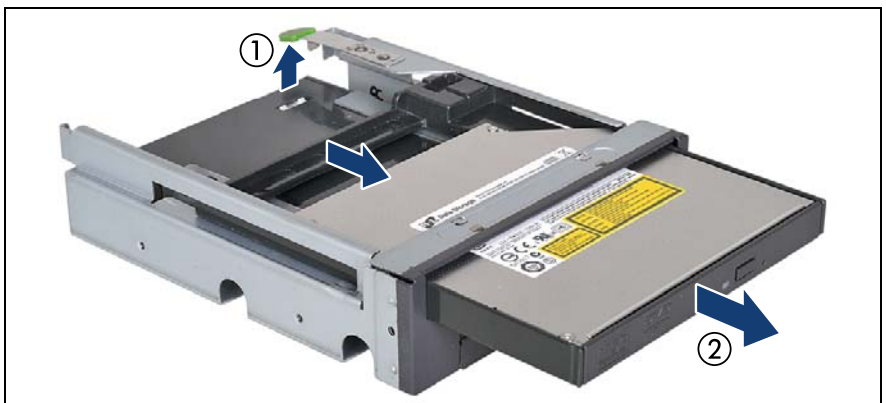

Figure 210: Removing the slimline ODD from the Multibay box
- ▶ Press up on the locking tab to disengage the slimline ODD dummy module as shown in figure 210 on page 295.